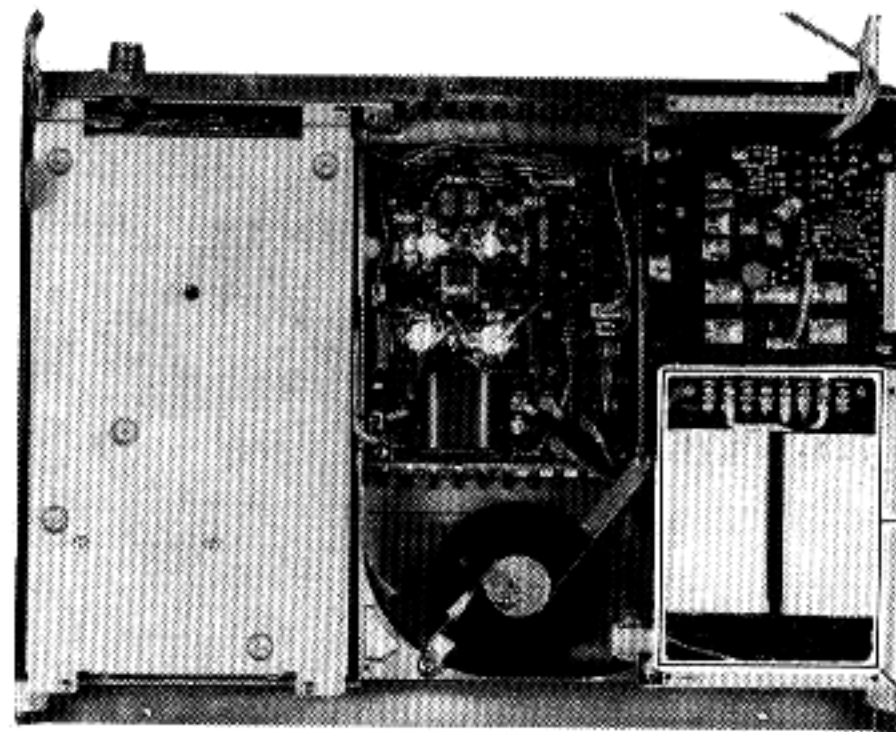

Figure 10
- 11) Locate the power transformer (Figure 10), and change the wiring as indicated by the labels on the transformer.